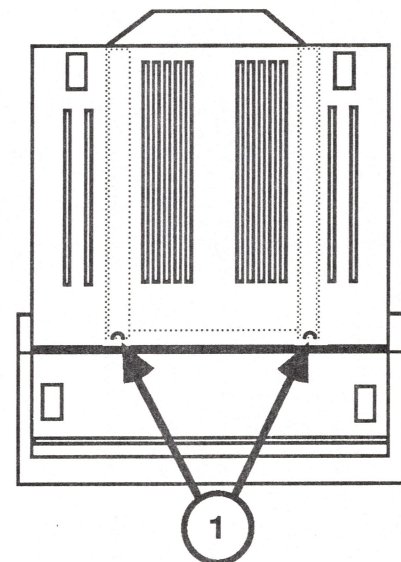

FIGURE 40
5. Replace the two screws (Figure 40, #1) at the bottom of the monitor.